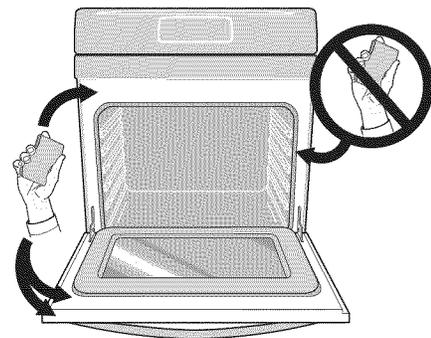

Figure 40: Clean around the oven door gasket
9. Wipe oven cavity and bottom. Do not clean oven door gasket (See Figure 40).